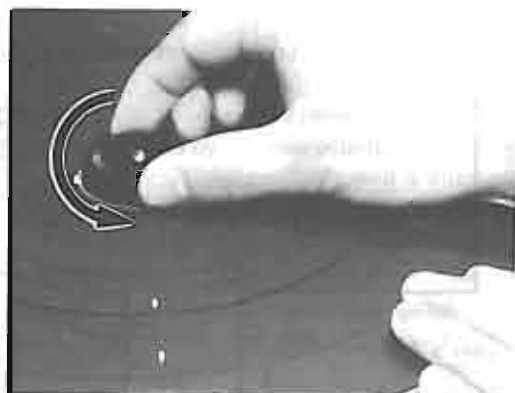

Fig. 4
1. Holding the turntable with the hand, turn the adapter (45 r.p.m) counterclockwise to remove. (See Fig. 4)